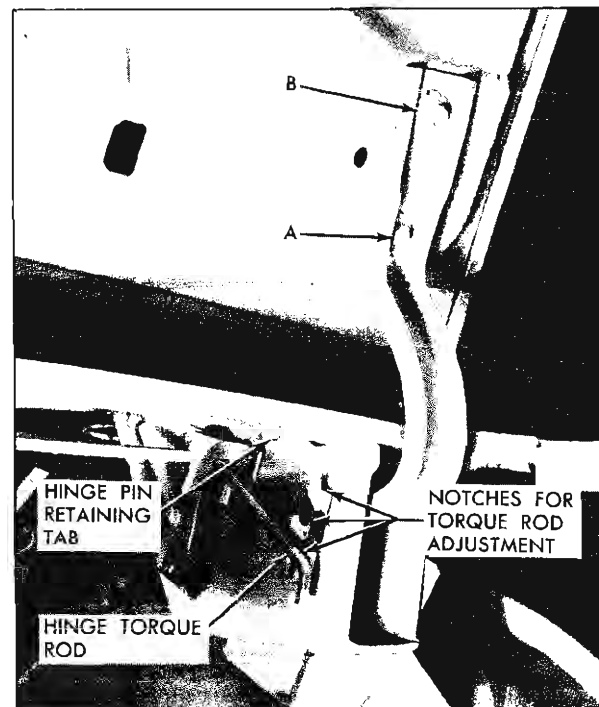

Fig. 14-4 Back Door Hinge and Torque Rod
3. With aid of a helper to hold lid, remove lid attaching bolts "A" and "B" (Fig. 14-4) at both hinge straps and remove rear compartment lid.
1. To adjust compartment lid forward or rearward or from side to side in body opening, loosen hinge strap attaching bolts "A" and "B" (Fig. 14-4) on both sides of lid, adjust lid as required, then tighten bolts.
a. To raise front edge of lid, place shim(s) between lid inner panel and forward portion of one or both hinge straps at "A" (Fig. 14-4).
b. To lower front edge of lid, place shim(s) between lid inner panel and rear portion of one or both hinge straps at "B" (Fig. 14-4).
The amount of effort required to open and close the rear compartment lid is determined by the position of the torque rods in the notches on the inboard face of the hinge boxes (Fig. 14-4). If the torque rod is located in the lowest notch the effort required to open the lid is the greatest and the amount of effort required to close the lid is the least. If the torque rod is
3. Scribe location of hinge strap on lid inner panel and remove bolts "A" and "B" (Fig. 14-4) securing hinge strap to lid.